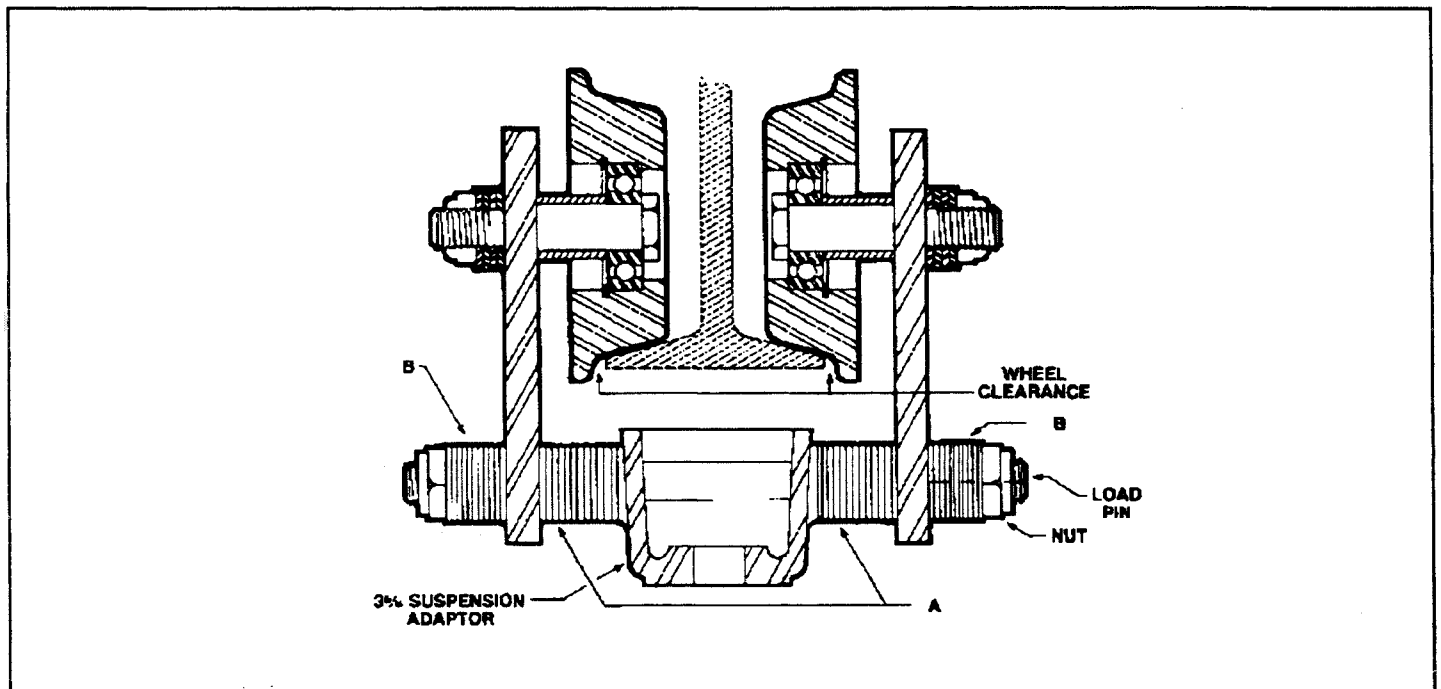

FIGURE 2-1
- b. Standard Army Type Trolleys are adjustable for the flange widths of 3.33 to 6.00 inches. Adjustment for I-beam sizes and tolerance is accomplished by locating the spacer washers as shown in Figure 2-1. Normal placement of washers is given in Table 2-1.